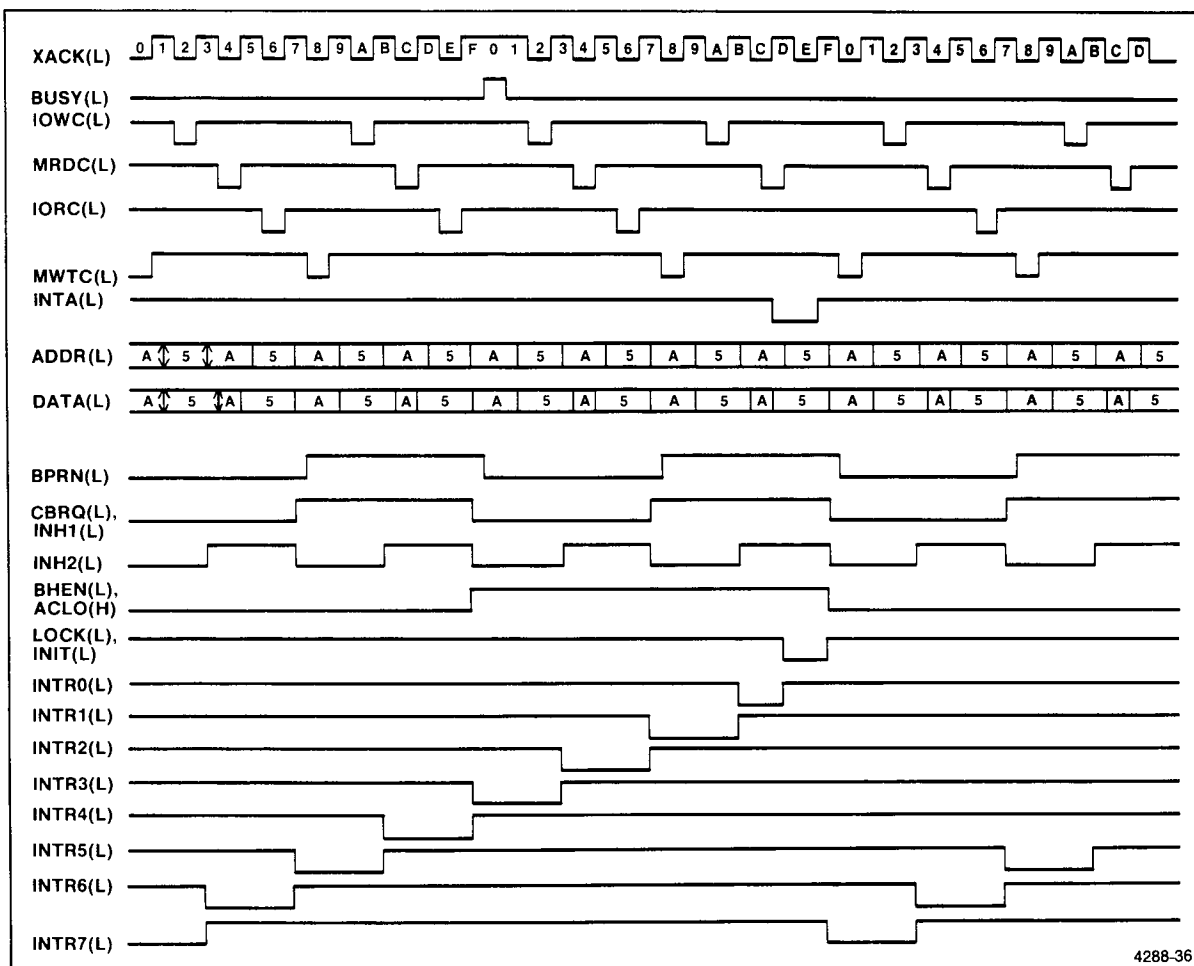

Figure 4-10. Timing relationships of self-test generator outputs.
The self-test generator provides a set of simulated Multibus signals to the PM 112's acquisition circuitry. They compose a predefined pattern of 16 simulated bus cycles, representing variations on all of the major Multibus cycle types. Figure 4-10 shows timing relationships of the signals in the self-test pattern. Figure 5-3, in the Performance Checks section of this manual, shows this pattern as acquired by the PM 112/7D02. The self-test generator's data and command signals meet the worst-case system timing specifications. Working in concert with the self-test and acquisition circuitry, the 7D02 firmware diagnostics provide a high degree of confidence that the PM 112 hardware is functioning properly.
This function block supplies an AA-55 (hexadecimal) pattern to the address bus on alternate bus cycles. Stimulus is provided by QA(H) and QA(L) from the phase B counter, and is strobed into deskew latches U3041, U3035, and U3025B by timing signal TD(H). Figure 4-10 shows the timing relationships of the self-test generator's address and other outputs.
This function block supplies an AA-55 (hexadecimal) pattern to the data bus on alternate bus cycles. Stimulus is provided by QB(L) and PXACK(H), and is strobed into deskew latches U3051 and U3045 by timing signal TC(H). Figure 4-10 shows the self-test generator's data and other outputs (note varying data setup time).